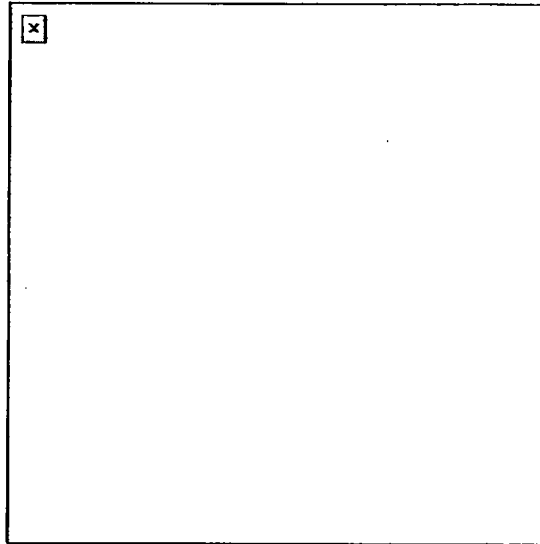

Figure 4. Disengagement of stow pin.
- d. Disengage the stow pin (Figure 4) from the gun mount.